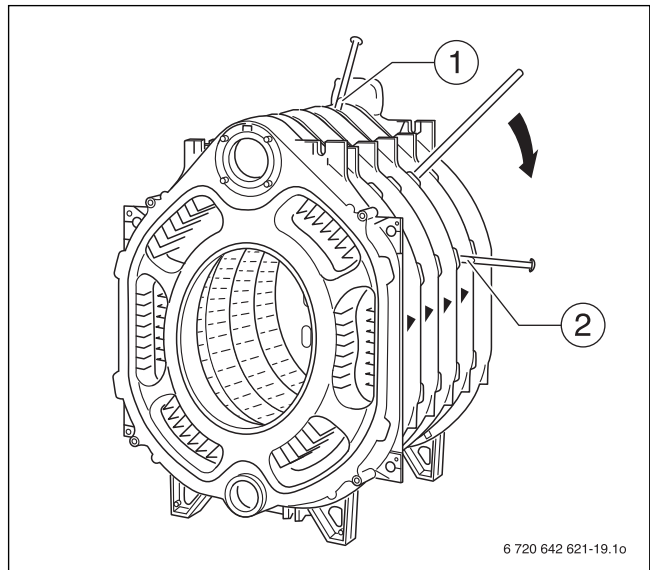

Fig. 24 Separating the boiler block
- ▶ Separate the boiler at the leak location by driving (ponding) in flat wedges or chisels between the sections at the designated points (Fig. 24, [1 and 2]) at the top and bottom.